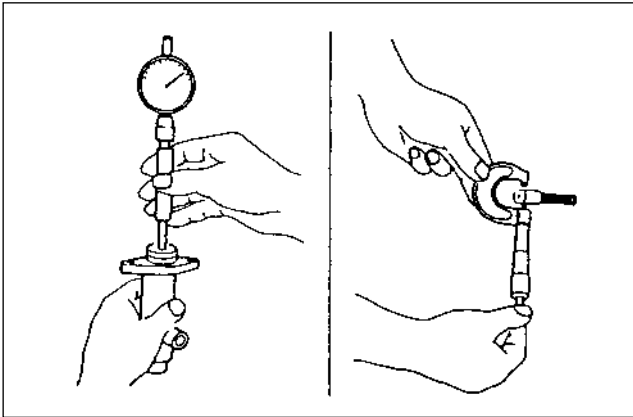

Figure 25. Measuring Clearance at Master Cylinder and Piston
Measure (Figure 25)
- The bore inside the master cylinder body with a dial indicator. Use a micrometer to check the thickness of the piston. Replace the master cylinder body or piston if the clearance is less than 0.12 mm (0.0047 in) (figure 25).